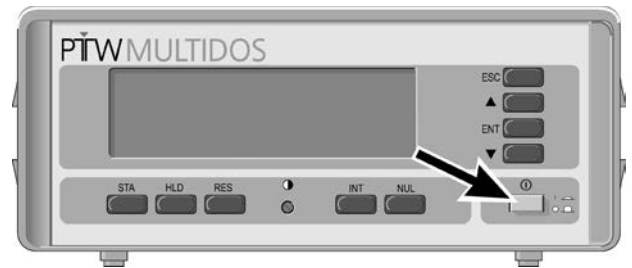

Figure 2-1: Power switch
- Push the power switch to turn on MULTIDOS (Figure 2-1).